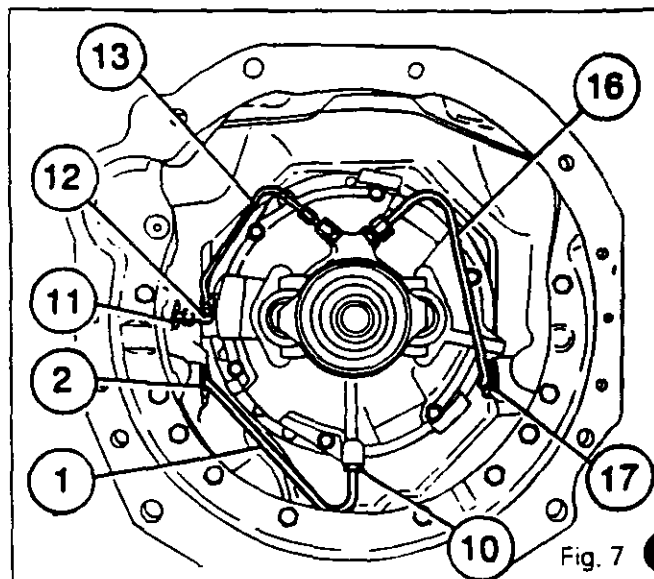

Fig. 7
- pipes **(13)** and **(16)**, the union **(12)** (Fig. 7 and 8) (tractors 3000 and 3100)
Remove the union **(10)** (Fig. 7 and 8) (tractors 3000 and 3100).
Disassemble the grommets **(2)**, **(11)** and **(17)** (Fig. 7 and 8) (tractors 3000 and 3100).